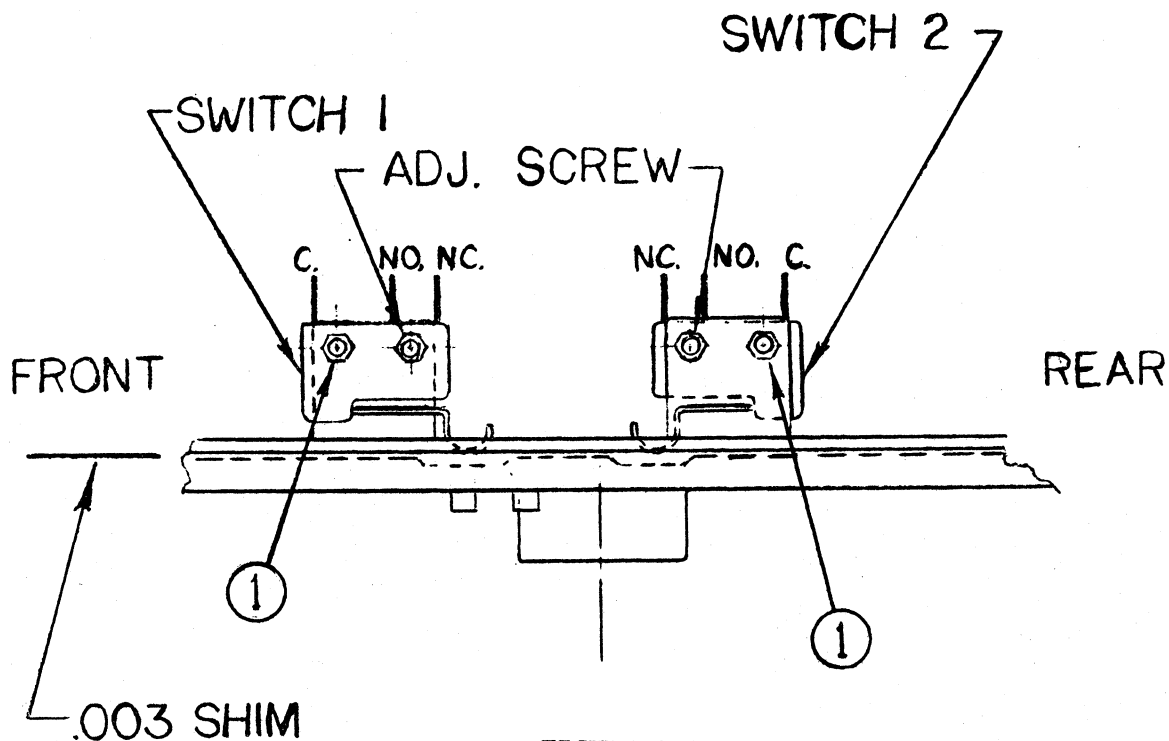

FIGURE 3-13
- (1) As shown in Figure 3-13, the screws designated "1" are to be tight, and the two adjustment screws are to be loose.
- (2) Attach an ohmmeter to the "C" and "NC" pins of Switch #1.
- (3) Set Switch #1 so it will be actuated by an 0.003" thick by 1.5" wide shim stock inserted in the card chute from the FRONT of the card reader. Tighten the adjustment screw.
- (4) Attach an ohmmeter to the "C" and "NC" pins of Switch #2.
- (5) Set Switch #2 so it will be actuated by the same shim stock inserted in the card chute from the REAR of the card reader. Tighten the adjustment screw.
- (6) Recheck the operation of both switches by the shim stock and by a magnetic card.